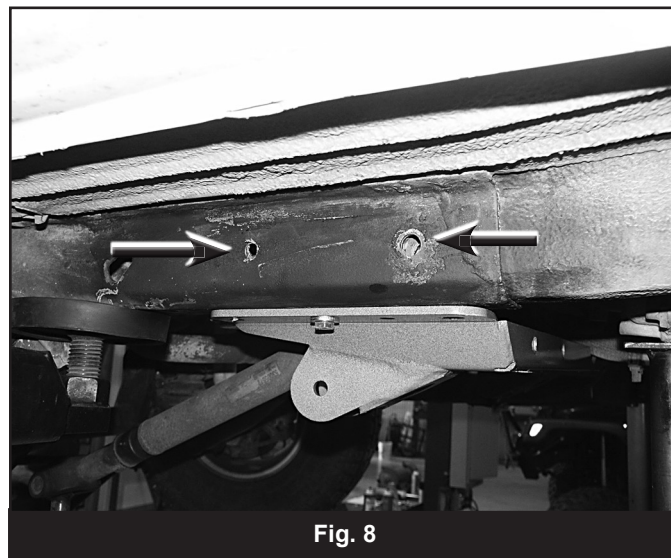

Fig. 8
21. With the rear thru-hole drilled to 7/16", go back with a 5/8" drill (or a step drill works well too) and drill just the outside layer of the frame. You will now have a 7/16" and a 5/8" hole in the outside of the frame and a single 7/16" hole on the inside (Fig 8).